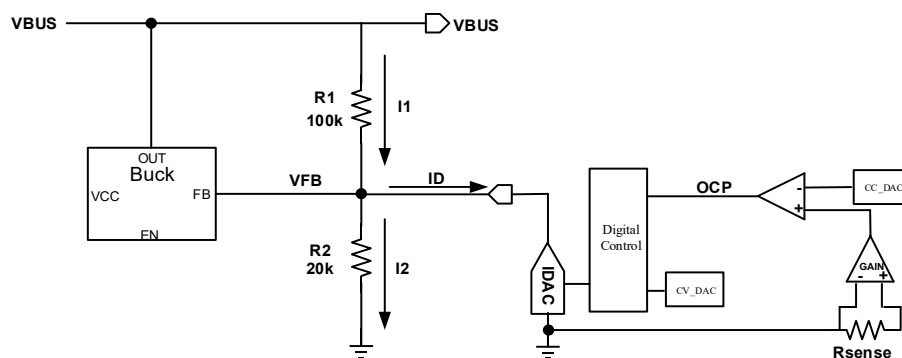

Figure 10. The Constant Current Loop
The AP53781 provides a constant current (CC) loop to provide the PD AVS function or other kinds of protocol which uses CC function. The CC loop, as shown in Figure 10 implemented by sensing the low-side IR drop on Rsense resistor and transfer to voltage by internal current sense then pass to internal digital filter block. This proprietary digital control scheme will adjust the ID of IDAC (in Figure 10) according to both voltage and current information.